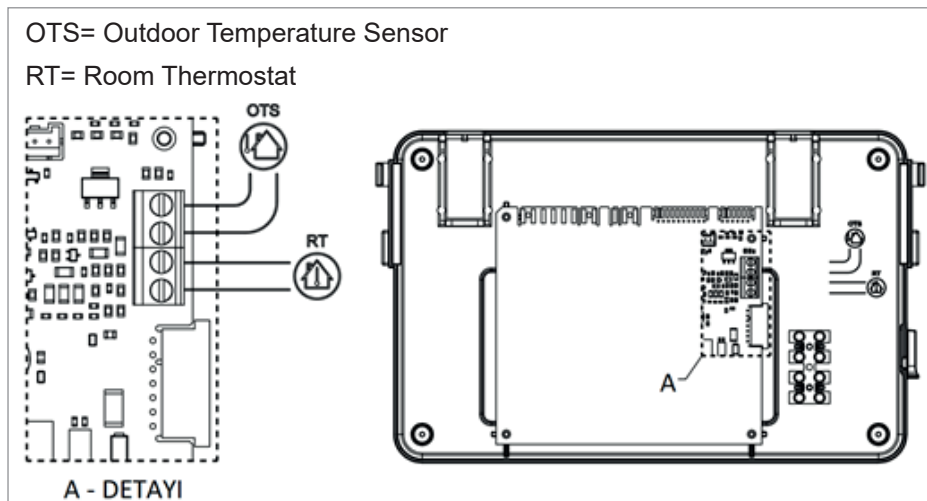

Figure 19. Interior view of the plastic board
- f. Connect the remote control, room thermostat, and outdoor air sensor cables as shown in detail A in Figure 19.